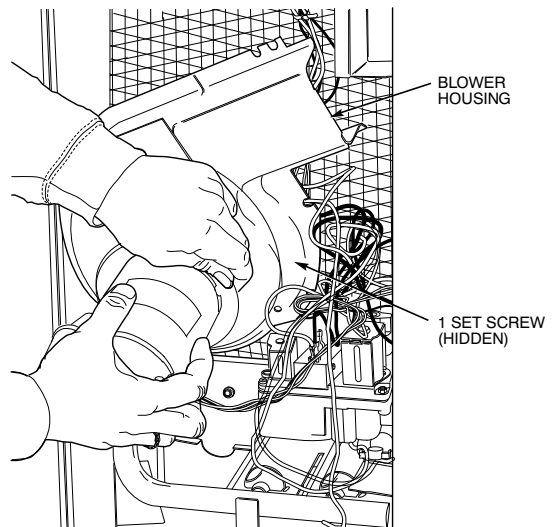

Fig. 36 – Removing Inducer Assembly ^{A200292}
15. Remove 5 screws holding Inducer Assembly (see Fig. 36) and remove assembly.